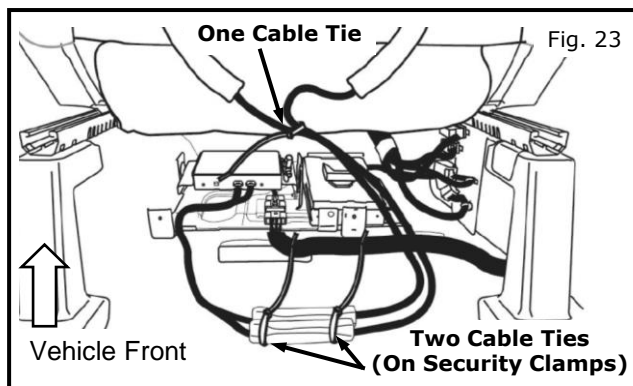

Fig. 23
- Group headrest cables to center of seat and secure using one cable tie. Figure 23
- Use two cable ties to secure foam wrapped barrel connections. Figure 23